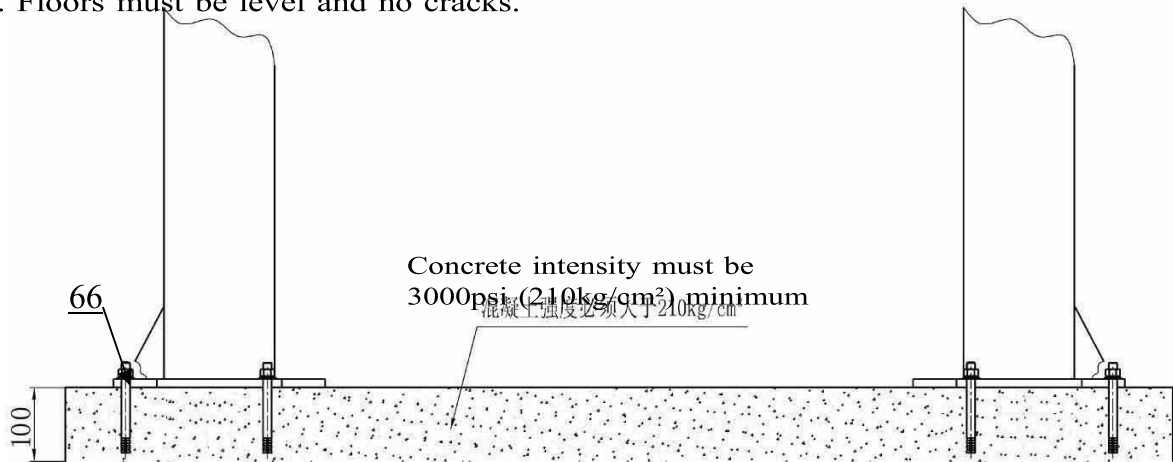

Fig. 4
B. SPECIFICATIONS OF CONCRETE (See Fig. 4).